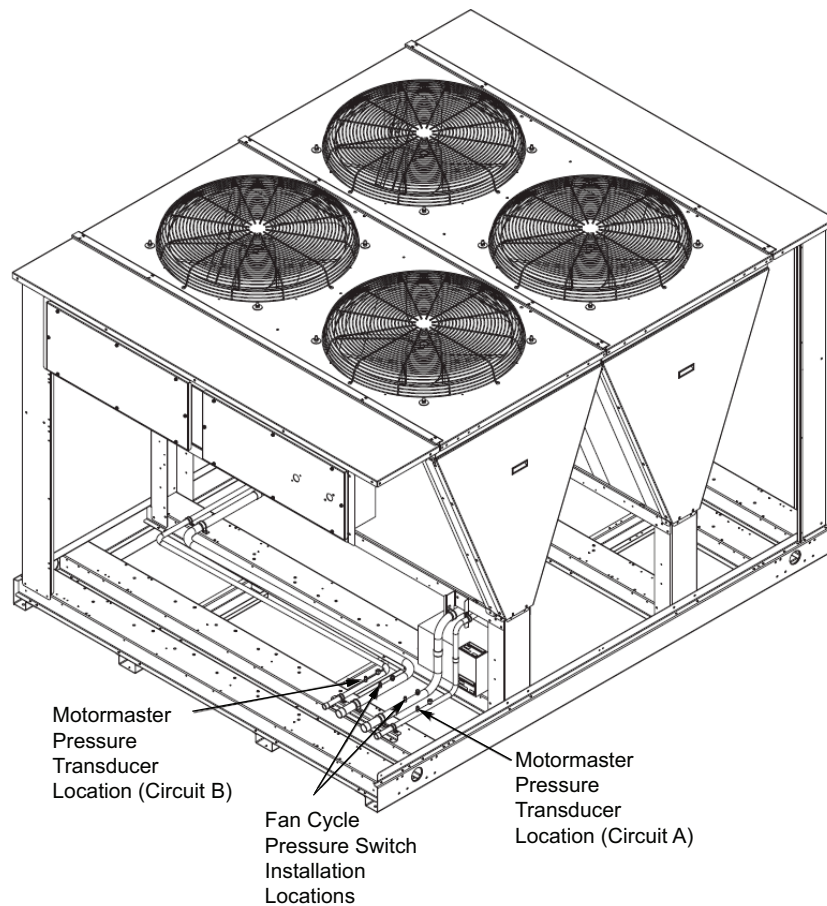

Fig. 40 — Motormaster Pressure Transducer Location — 09DP 065-130 Units
- g. Install Motormaster pressure transducers (MMPT-A and MMPT-B) (Item 711) on liquid line. See Fig. 40. Only one Motormaster pressure transducer (MMPT) needs to be installed on single circuit units.
- b. Route pressure transducer harness (Item 727) out of the bushing in the bottom of the control box and connect to the MM pressure transducers (Item 711). Be sure to connect the proper circuit cable to the appropriate transducer. See Fig. 40.